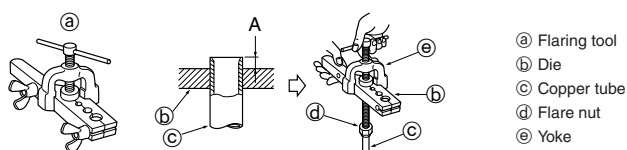

Fig. 5-6
5.2.4. Flaring work (Fig. 5-6)